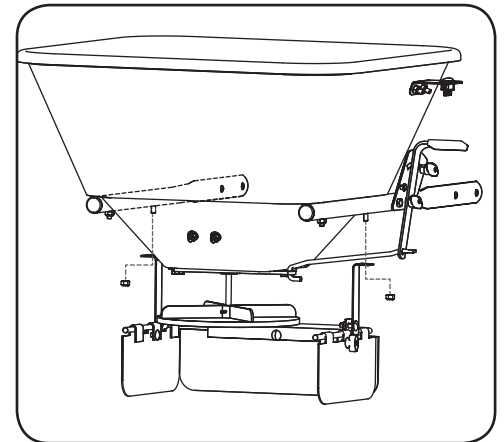

Figure 1-13
- Line the deflector up so that the opening in the deflector plates faces backward. Secure the deflector to the front hopper/frame tube bolts with the nuts removed in the previous step. See Figure 1-13.